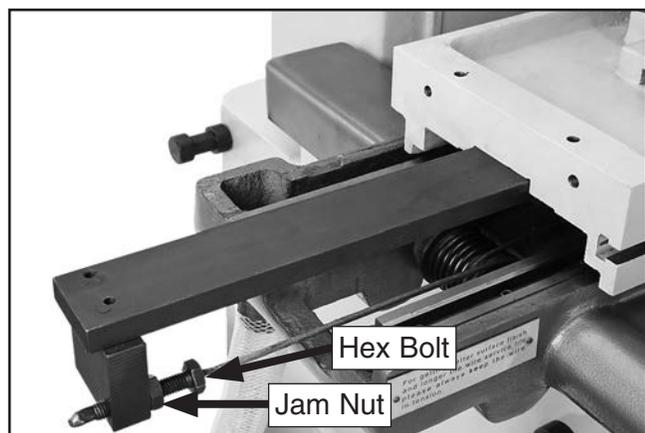

Figure 21. Cable attached to cable bracket.
- Thread hex bolt attached to end of cable into cable bracket until cable tension is enough to keep cable tightly wrapped around pulley (see **Figure 21**).